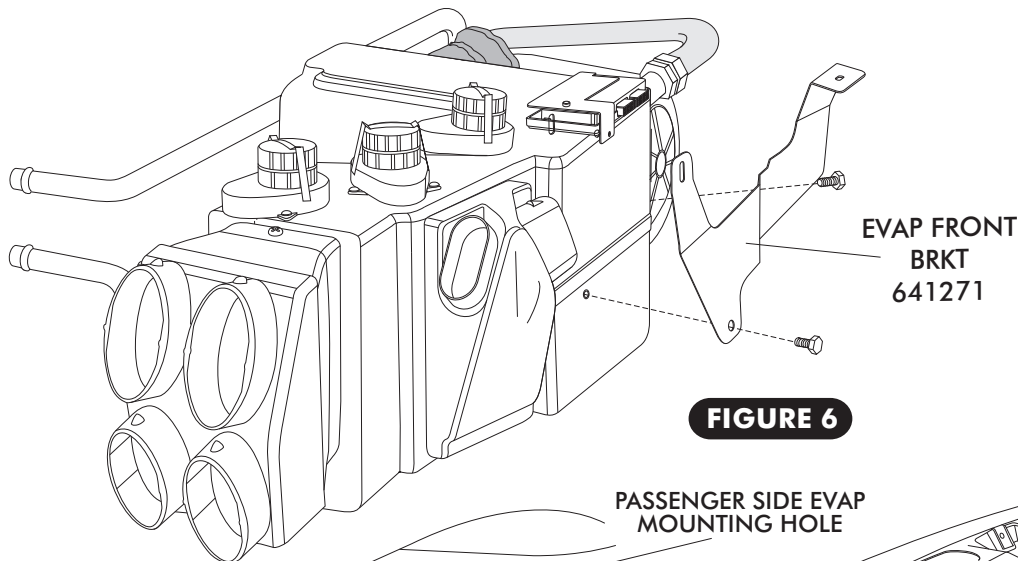

FIGURE 6
- ❑ INSTALL FRONT MOUNTING BRACKET ON EVAPORATOR USING (2) 1/4-20 X 1/2 HEX BOLTS AND TIGHTEN AS SHOWN IN FIGURE 6 BELOW.